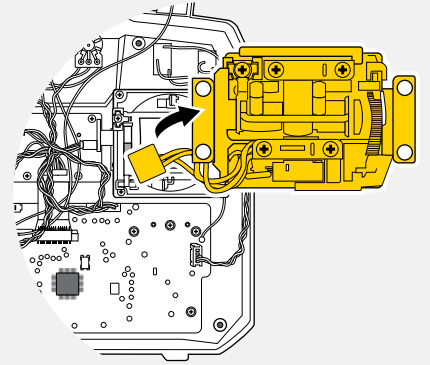
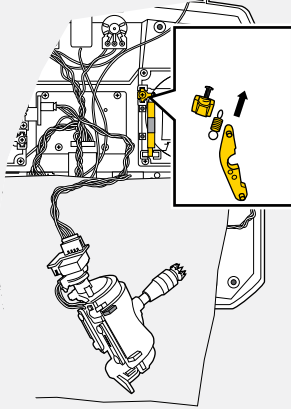

Fig. 16
Fig. 17
7. From the front, gently push the throttle stick out of the housing (see [Fig. 16]). You do not need to disconnect the cable. Instead, use a piece of paper and carefully place the stick on it (see [Fig. 17]).
8. Remove the spring adjustment slider, spring and bar (see [Fig. 17]).